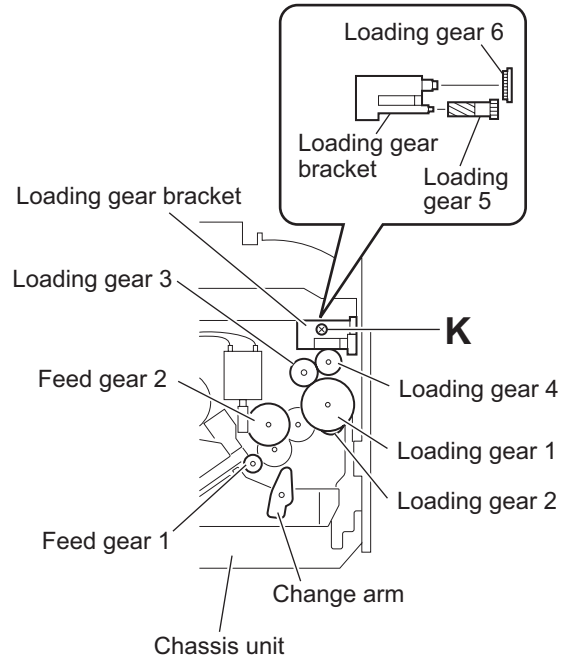

Fig.22
(See Fig.22)
(See Figs.22 and 23)
- (1) From the bottom side of the chassis unit, pull out the loading gear 1. (See Fig.22.)
- (2) Pull out the change gear 2. (See Fig.22.)
- (3) Pull out the change arm. (See Fig.22.)